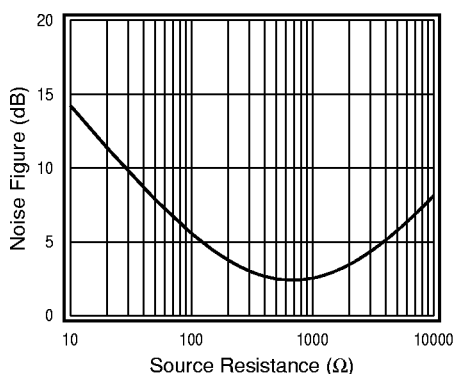

Figure 7. Noise Figure Plot
In RF applications, noise is frequently specified as Noise Figure (NF). Figure 7 plots NF for the CLC449 at a gain of 10, with a feedback resistor R_f of 100Ω, and with no input matching resistor. The minimum Noise Figure (2.5dB) for these conditions occurs when the source resistance equals 700Ω.